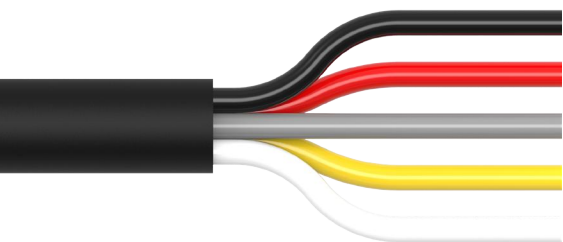

FIG. 5
1. Plug the provided 5 Core Pigtail (F) into the switch connector on the Main Harness (A). See Fig. 5 for individual wire functions.